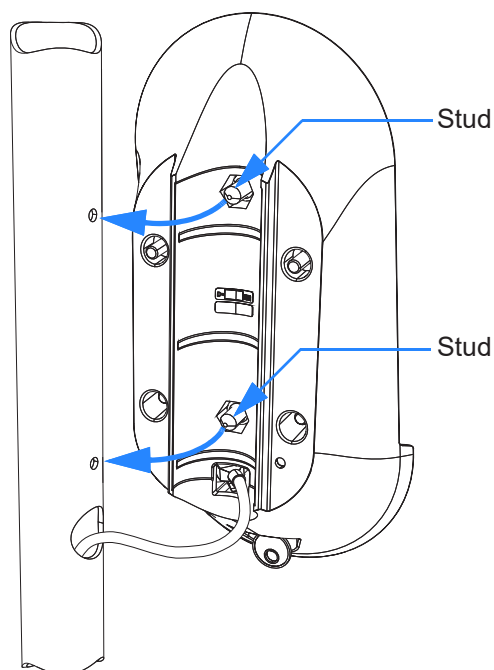

Figure 3-44 Pole Installation
- Step 7** Place the FareGo Val OV|41 onto the pole by inserting the studs in the designated holes. The studs prevent the FareGo Val OV|41 from twisting on the pole (**Figure 3-44**).